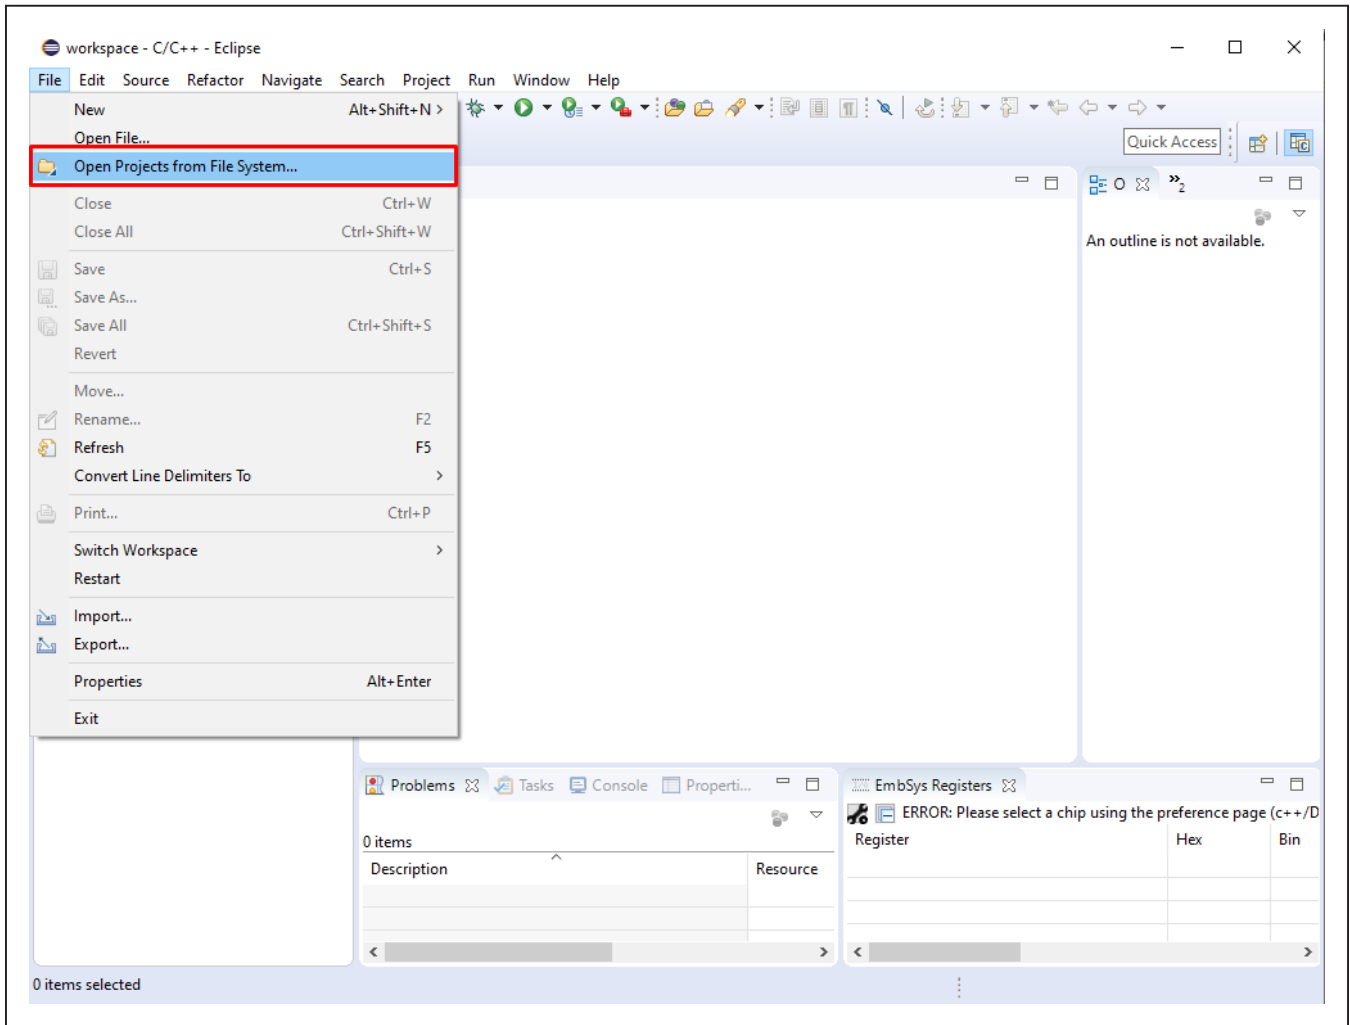

Figure 8. Eclipse Open Projects.
8) From the **Eclipse** dialog box > **File** menu, select the **File > Open Projects from File System...** as shown in Figure 8.